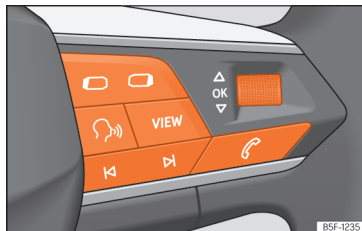

Fig. 10 Right side of multifunction steering wheel: buttons to the menus and informative indications on the instrument panel (depending on the version).
As long as a priority 1 >>> page 22 warning is active, it will not be possible to access any menu. Some warnings can be confirmed and hidden with the **OK** button of the multifunction steering wheel >>> Fig. 10.
- If a message or vehicle symbol is displayed, press the **OK** button >>> Fig. 10; several times if necessary.